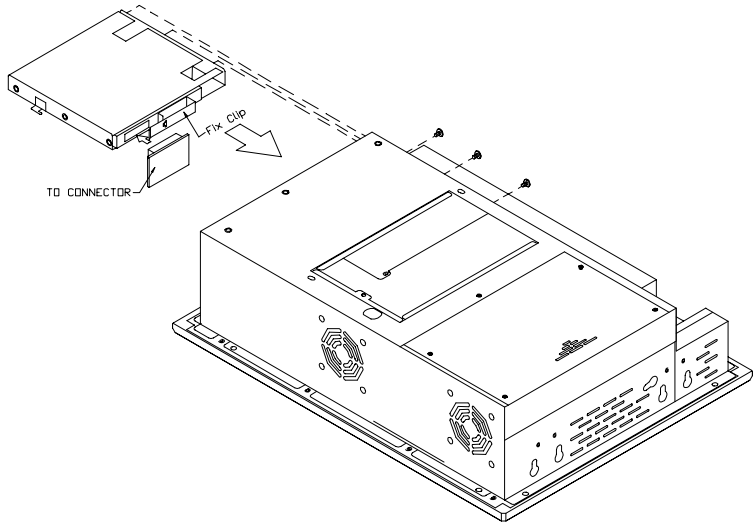

Figure 2-8: Removing the back case screws
1. Remove the three screws on the bottom of back case (see Fig. 2-8).